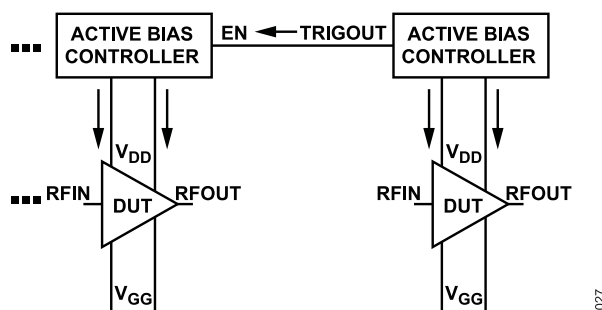
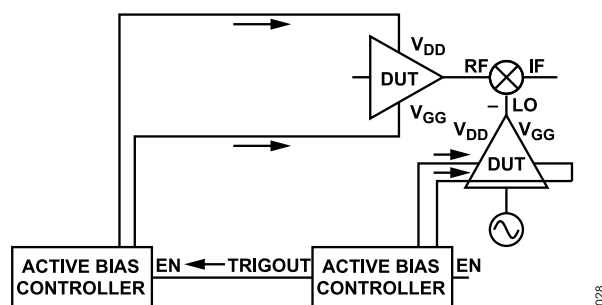

Figure 21. Daisy-Chain Configuration with Two Amplifiers in Cascade Configuration
Figure 22. Daisy-Chain Configuration Where Amplifiers Are in Different Signal Paths
Where multiple active bias controllers are controlling multiple cascaded RF amplifiers, they can be used in a daisy-chain configuration. The TRIGOUT output of the active bias controller activates when the V_{DRAIN} , V_{G2} , and V_{GATE} output voltages settle. Using the TRIGOUT signal to enable another bias controller with the enable pin (EN) improves system safety. A daisy-chain configuration has many applications. Figure 21 and Figure 22 show two applications. The number of amplifier stages and bias controllers can be increased.